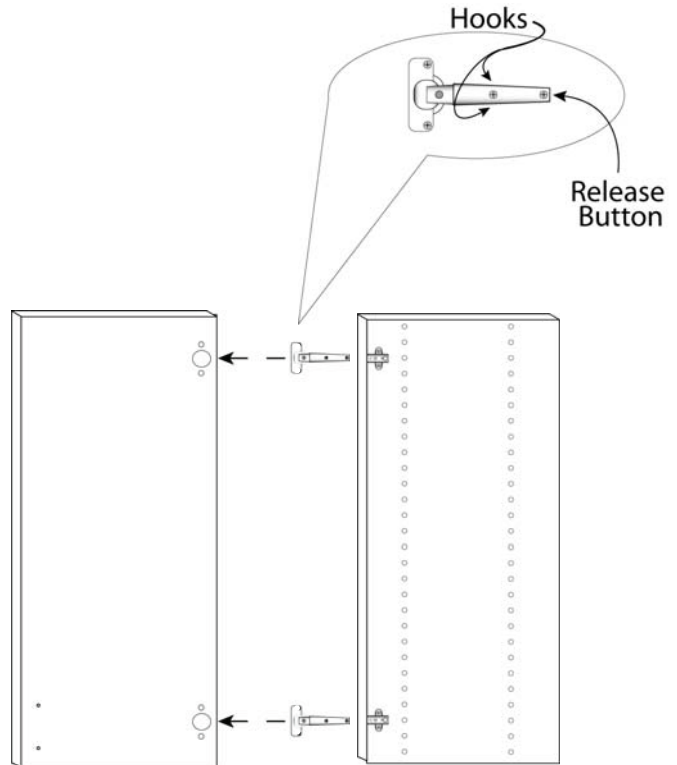

Fig. 2
4. Lift up hinge flap. Insert each hinge into set of three (3) holes on the back of each door. Then, lower hinge flap to tighten and secure hinge in hole. See Fig. 2.)